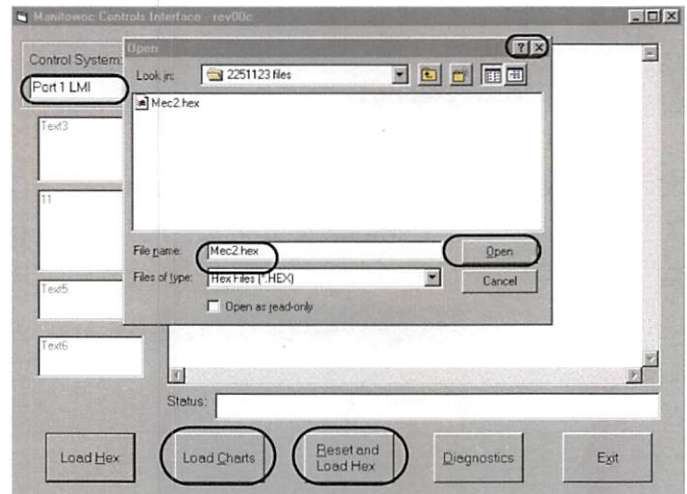

FIGURE 12
3. **Manitowoc Controls Interface - rev00c** screen is displayed (see Figure 12).
4. Select desired laptop serial port to be used as well as "LMI" (see Figure 12).
8. Press **Reset and Load Hex** button in lower center (see Figure 12). A screen will drop down called **Open**.
10. Locate and click on **Mec2.hex** icon to select file and then click on **Open** button (see Figure 12). The hex file will now download the program. A screen displays bootstrap information during download process and controls application shows data address.